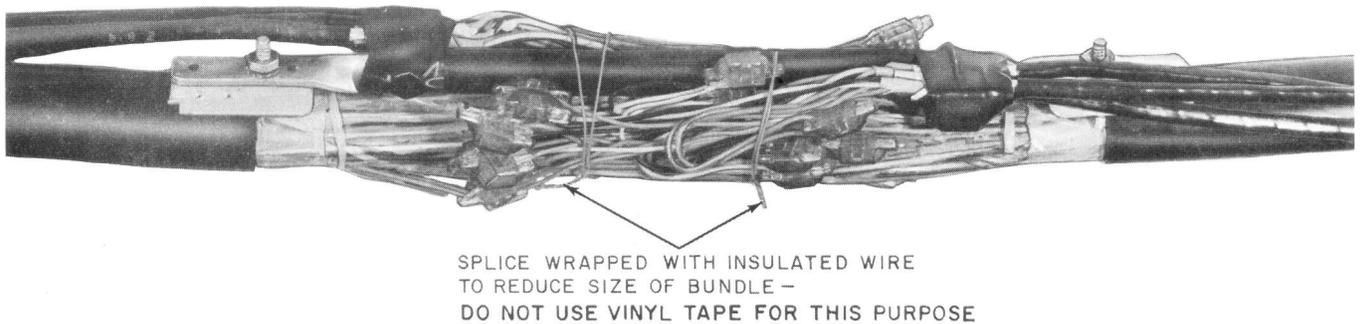

Fig. 10—Wire Work Complete
3.10 ▶ Fold the spliced pairs back inside then wrap splice with a piece of insulated wire or cable tie to reduce size of the splice bundle (Fig. 10). **Do not wrap splice bundle with vinyl tape.**▶